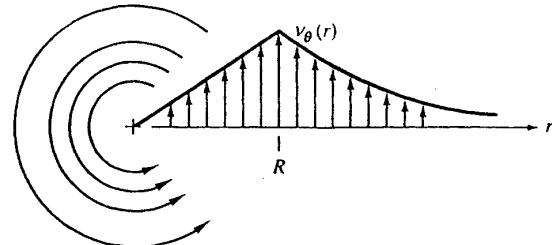

Fig. P8.14
- 8.14** A tornado may be modeled as the circulating flow shown in Fig. P8.14, with  $v_r = v_z = 0$  and  $v_\theta(r)$  such that
**8.15** A category-3 hurricane on the Saffir-Simpson scale ([www.encyclopedia.com](http://www.encyclopedia.com)) has a maximum velocity of 130 mi/h. Let the match-point radius be  $R = 18$  km (see Fig. P8.14). Assuming sea-level standard conditions at large  $r$ , (a) find the minimum pressure; (b) find the pressure at the match-point; and (c) show that both minimum and match-point pressures are independent of  $R$ .